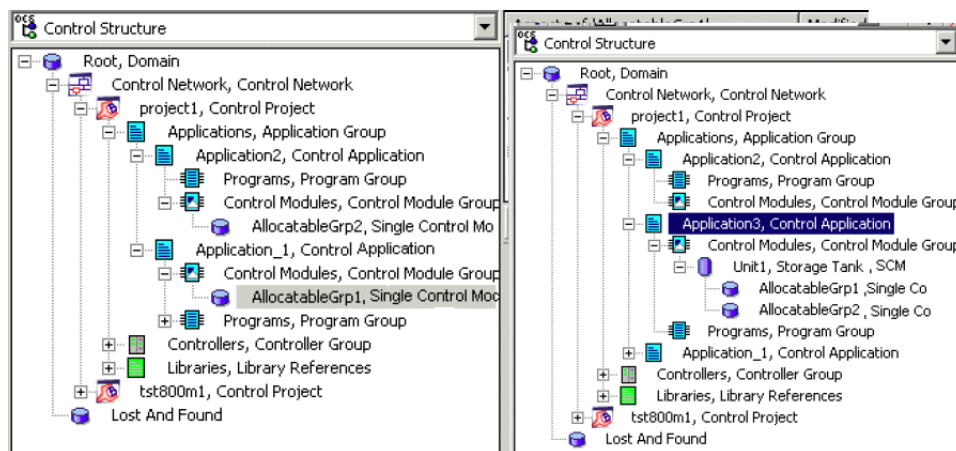

Figure 314. Several Allocatable Groups in Control Structure
- You allocate the allocatable groups into different control applications. Then, you will get a single control module for each allocatable group object (see Figure 314, left).
- You allocate the top level object containing the function diagram to a control application. You will get a single control module for the top level object and additionally single control modules for each allocatable group object (see Figure 314, right).